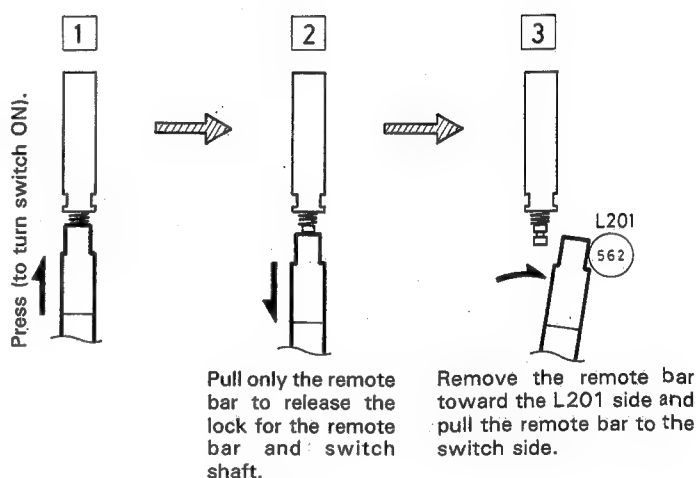

Fig. 2-6
8. Remove the screw (6) that is tightened with the headphone grounding.
9. Remove the CD direct switch bar (see Figure 2-6).